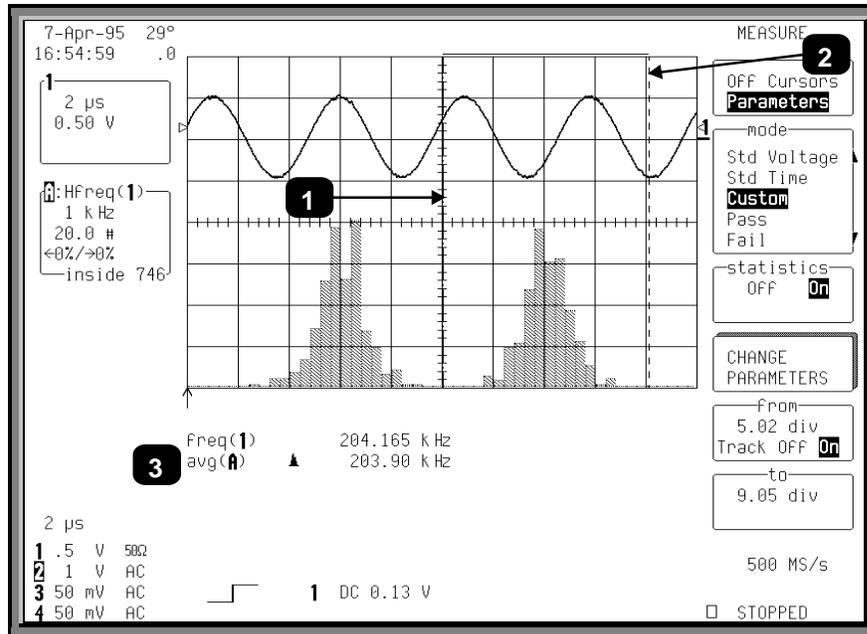

Figure 1.5
Figure 1.5, below shows the use of the parameter cursors (Items ① and ②) in determining the average frequency of the distribution located between the cursors. The average value of the measurements in the right-hand distribution is indicated by ③.